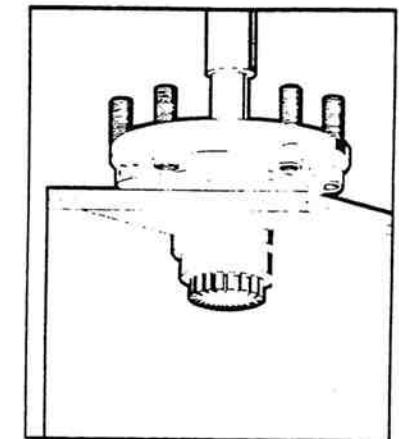

Figure 7-16. Adapter Housing Support.
3. Support the adapter housing on steel blocks on the bed of a hydraulic press and press the drive shaft out of the drive gear bore (figures 7-16 and 7-17).